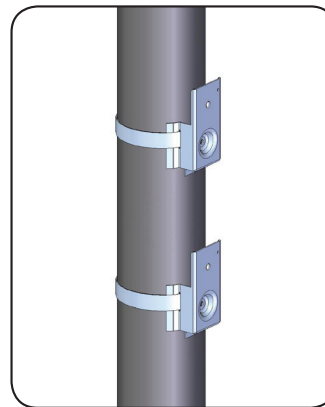

Figure 5.6 – Steel pole mounting brackets
3. Loosely attach the mounting brackets with steel bands to the pole at the marked locations. Do not fully tighten the steel bands at this time (Figure 5.6).